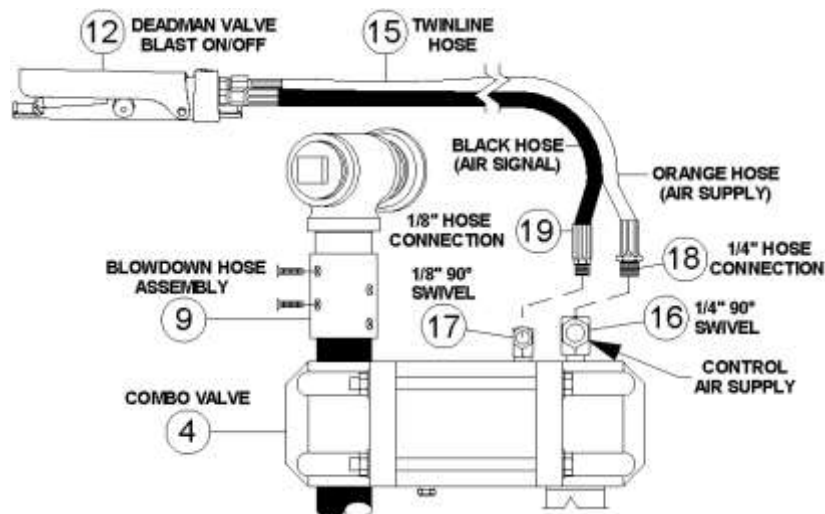

Figure 5.3 – MV3/Combo Pneumatic Deadman Blast Control System
5.8.1. Pneumatic Deadman System: When the pneumatic deadman (#12) lever is pressed down, air supply from the orange hose of the twinline hose (#15) flows into the black hose. Air flows through the black hose to the signal port of the ComboValve (#4) to open it and send air into the abrasive blaster and blast air hose. When the deadman lever is released, the air signal is vented and the ComboValve is closed to shut off the air supply and depressurize the blaster through the blowdown hose assembly (#9). See Figure 5.3 and the drawings in Sections 9.1 and 9.2.